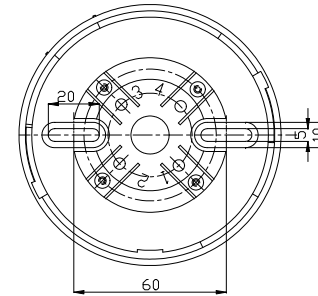

Fig. 1 Bottom
1. The bottom is shown in Fig.1.